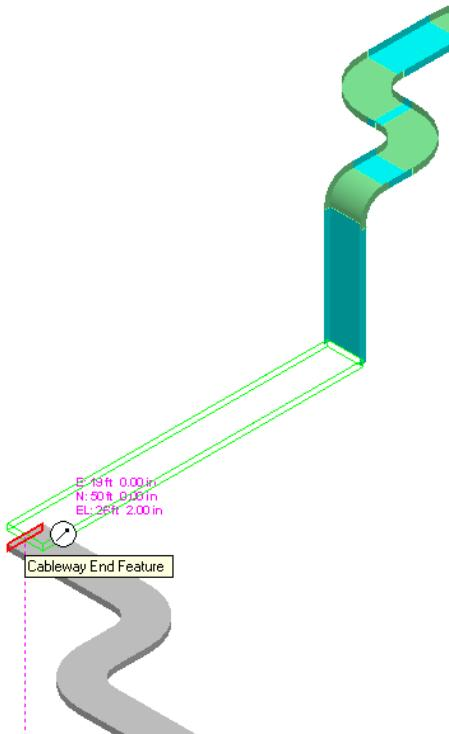

Figure 45: Connecting the Two Cableways
43. Click in the graphic view to define the next data point. Again, move the cursor to the other end feature of the cableway with non-zero spec and click to join the two cableways, as shown in Figure 45.